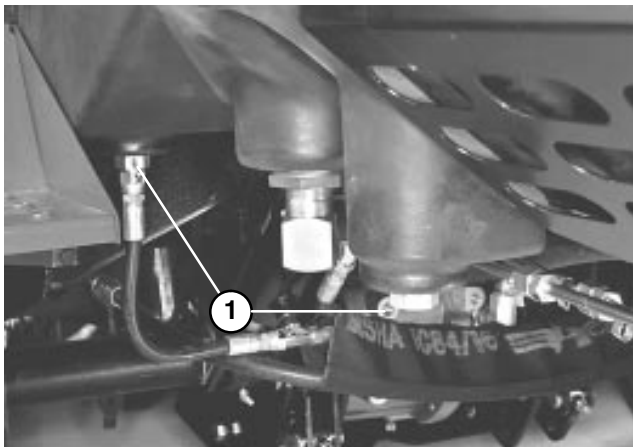

Figure 47
CHANGING HYDRAULIC OIL (Fig. 47 & 48)
2. Remove drain plug from rear of reservoir and hydraulic line from front of reservoir (Fig. 47) and let hydraulic oil flow into drain pan. Reinstall and tighten plug and line when hydraulic oil stops draining.